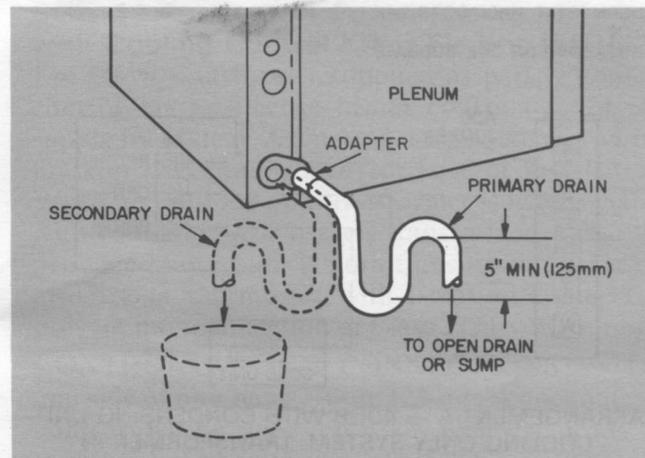

Fig. 7 — Condensate Trap
Step 5 — Make Primary Condensate Drain Line Connection to connection provided on unit (see Fig. 10). *Do not remove factory-installed 3/4-in. (19-mm) nipple adapter.* Install a trap in condensate line as close to unit as possible. Trap must be at least 5 in. (125 mm) deep and not higher than the bottom of unit condensate drain opening (see Fig. 7). Pitch condensate line to open drain or sump. Minimum recommended drain line size is 7/8-in. (22.22-mm) OD copper tubing or 3/4-in. (19-mm) OD galvanized pipe. Insulate condensate drain line(s) located above a living area.